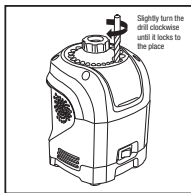

Figure 2
- Step 3.** Slightly rotate the drill bit in clockwise direction until it locks to the place. Refer to Figure 2.
- Step 4.** Turn the device on with the On/Off Switch (3). When you can hear the grinding sound, grind the first face (face 1) for about 5–10 seconds.